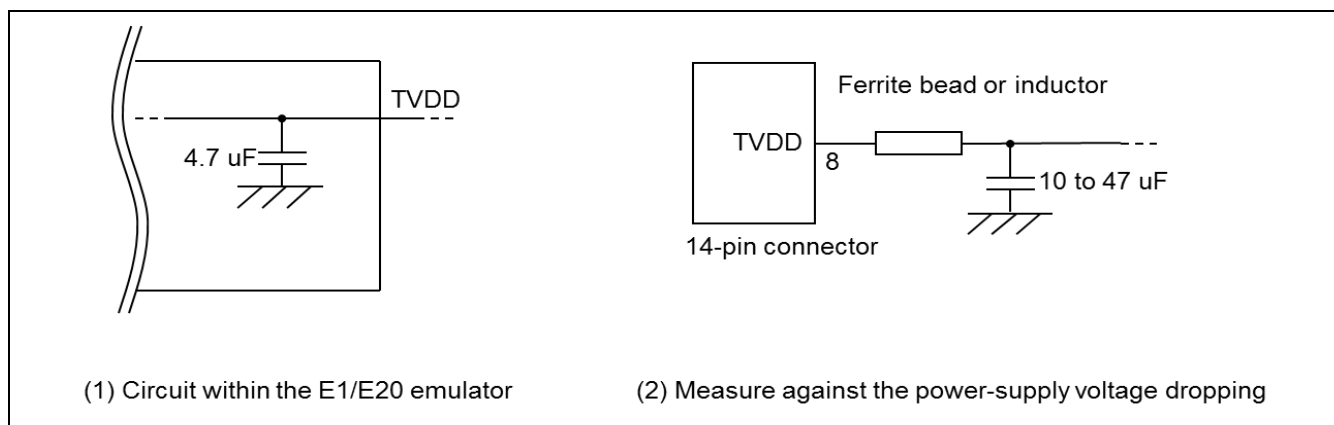

Figure 2-8 Circuit Configuration for Hot Plug-in
If there is a possibility you will be using hot plug-in connection, you will need to configure the circuit as shown below. Pin 8 of the E1 emulator is connected to a 4.7-uF capacitor as shown in (1) in Figure 2-8, so hot plug-in connection of the emulator may lead to a momentary drop in the power-supply voltage on the user system. This might cause the MCU to be reset.
As shown in (2) in Figure 2-8, this effect can be reduced by placing a ferrite bead (or inductor) and relatively large capacitor with low equivalent series resistance near the TVDD line of the connector for connection of the emulator. However, this measure will not completely eliminate the voltage drop. Note that hot plug-in connection is only for use during debugging, and a separately sold hot plug-in adapter is necessary to use this function otherwise.